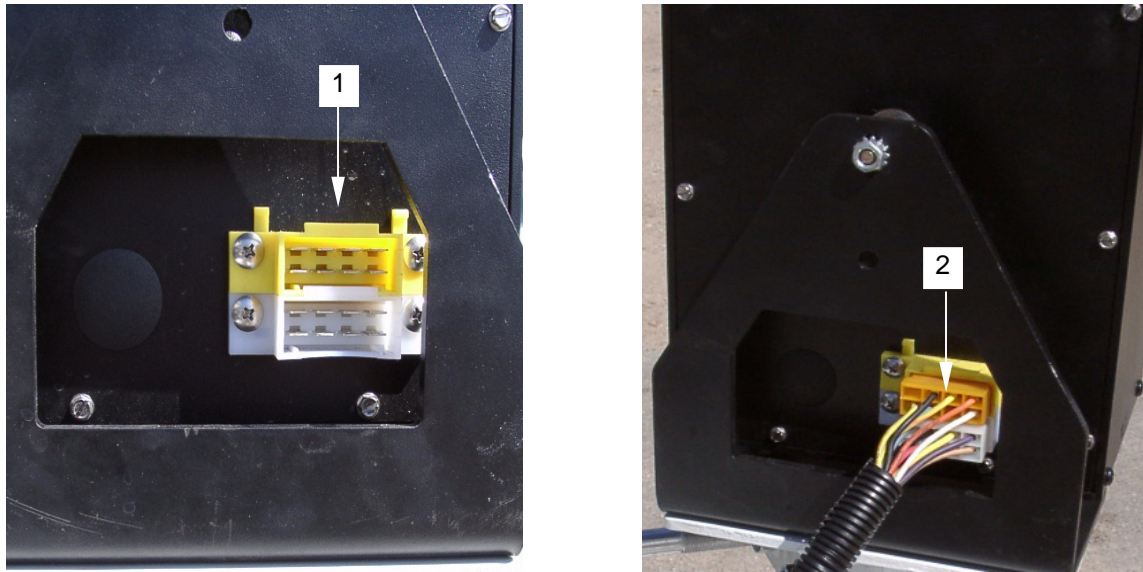

Figure 9. Control Panel External Harness Connection
23. Locate the 8-pin yellow and white male connectors (**figure 9, item 1**) at the rear of the control box and connect the orange and white external wire harness (**figure 9, item 2**) to it.